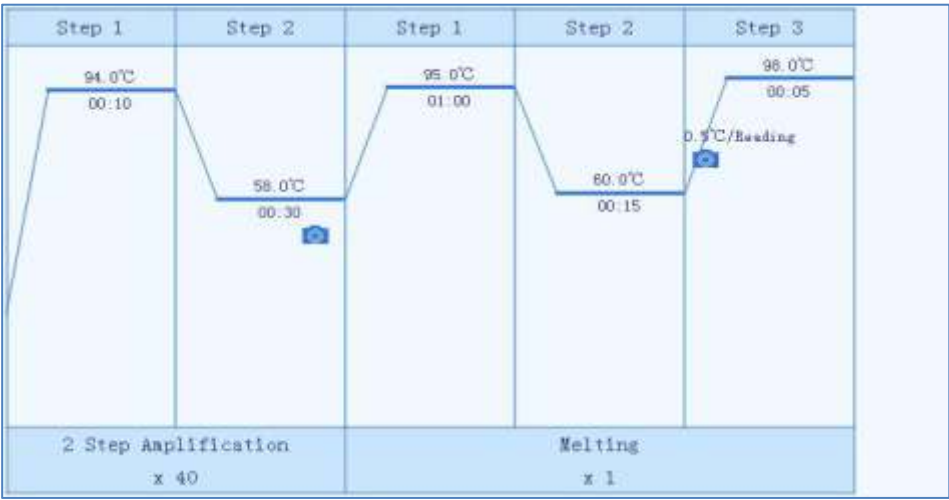

Figure E-5.4 Run Monitoring Diagram - Temperature program
- If users select the **Temperature** option in the run monitoring option bar, run monitoring diagram will display the temperature program of the current experiment, as shown in figure E-5.4.